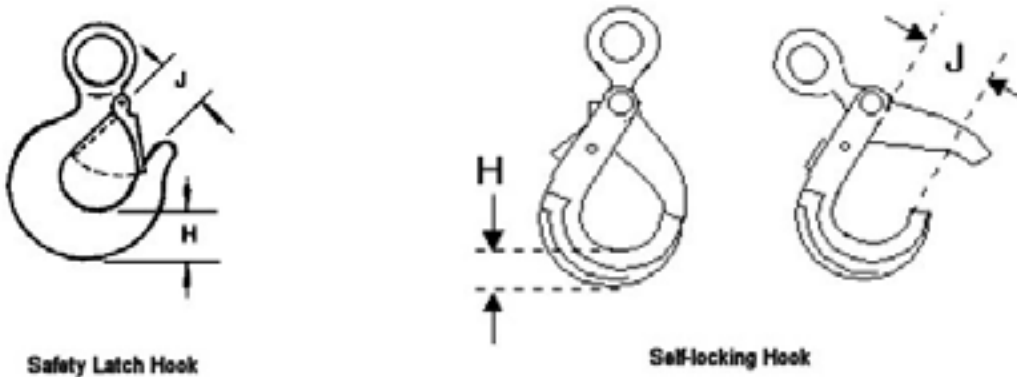

Figure 10. Dimension for Hooks
- c. Check hook dimensions, see table 3 and figure 10.